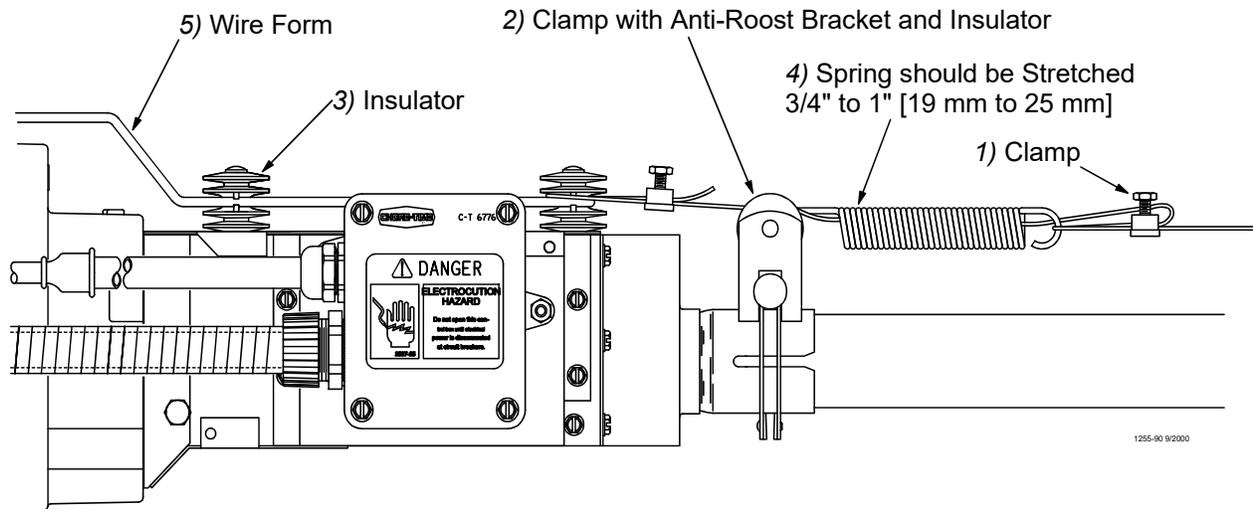

Figure 52. Anti-Roost Installation at the Control Unit
9. At the control unit, after clamping the cable to the spring, cut the cable about 8" to 10" [200 to 250 mm] longer than necessary. Feed the end of the cable through the center of the spring, around the first insulator on the control unit, and clamp the cable using the cable clamp supplied with the control unit. See **Figure 52**.
10. Install the wire form on the control unit insulators. Be sure the guard snaps into the retainers molded into the insulators. See **Figure 52**.